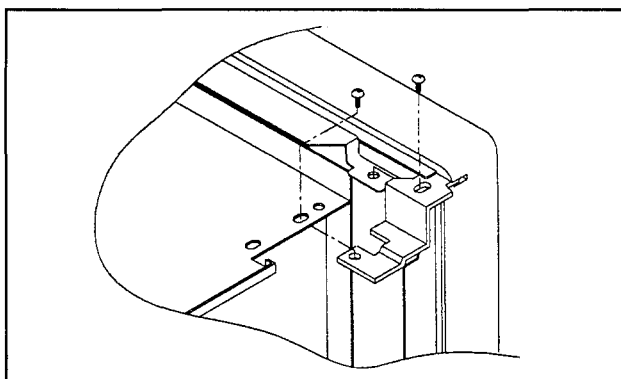

Figure 14
2. To remove door assembly. (Figure 14)